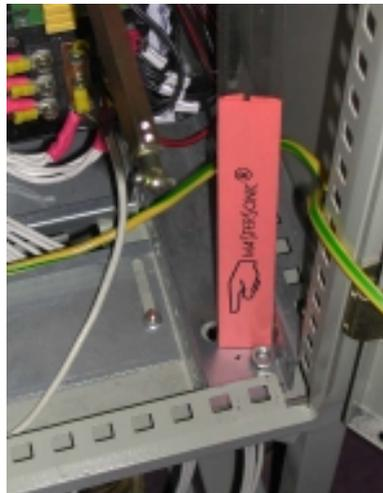

fig. 8.1. Mounting screw
- Unpack the two cabinets and mount the transformer on the spot appointed in its cabinet. Place the cabinet with the generator on the cabinet with the transformer in such way, that the four openings on the two cabinets coincide. Tighten with screws M8 in the four ends on the floor of the cabinet of the generator. (See fig. 8.1)